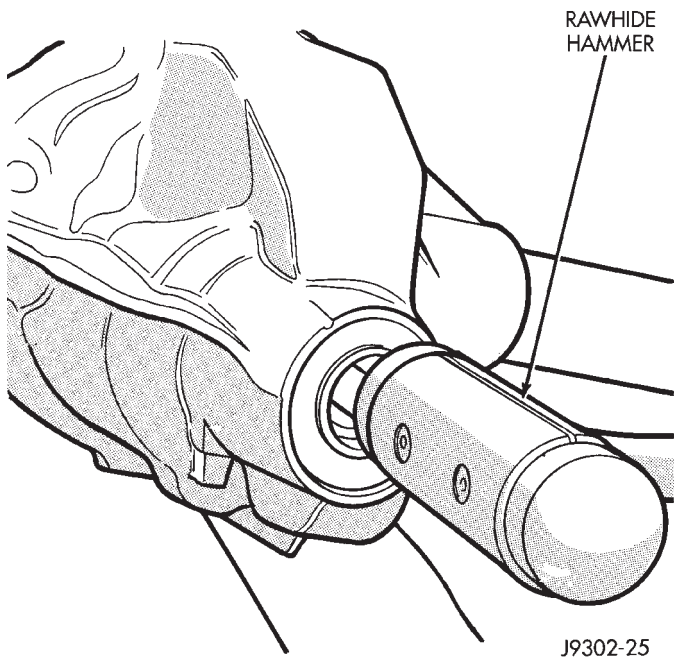

Fig. 46 Remove Pinion Gear
- (6) Remove the pinion gear from housing (Fig. 46). Catch the pinion with your hand to prevent it from falling and being damaged.